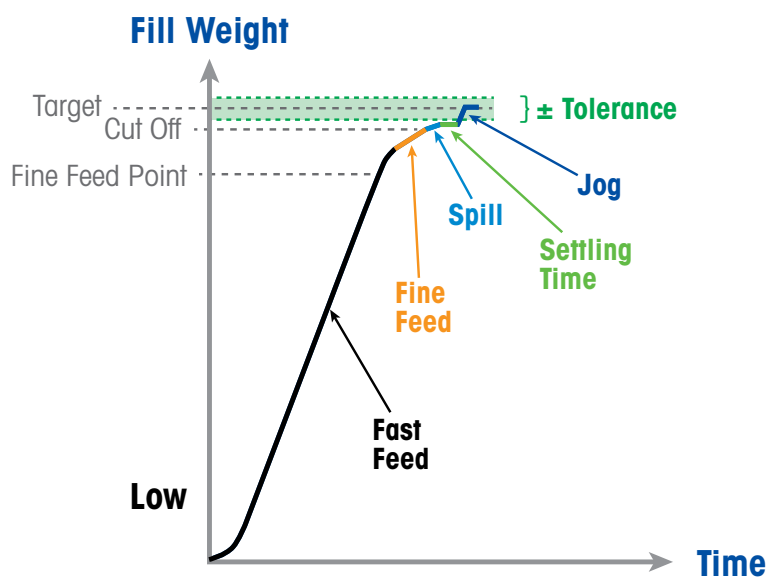

Figure 25: Two-Speed Filling Operation
5. Figure 25 suggests one way to improve the speed/accuracy conundrum. We can fill the majority of the tank at fast speed/low accuracy and then switch to slow speed/high accuracy towards the end. In other words, use two-speed filling, as discussed in more detail below. There is no penalty for having filled the majority of the tank at low accuracy, as long as we apply the brakes in time to finish at high accuracy. This has been the conventional approach to achieving an acceptable balance of speed versus accuracy in filling, and it is widely used today.
Figure 25 is a graph of fill weight versus time for a conventional two-speed filling operation. Some or all of these elements may be incorporated into a typical filling operation, depending on the accuracy required. At the top is shown a target fill weight with a \pm tolerance band. The filling cycle can be broken down into several phases as illustrated. When the feeder device is first activated, the material flow takes some time to ramp-up to a steady flow in the fast-feed phase, which accounts for the majority of the fill time and weight. Beyond that are additional phases which refine the fill weight to ensure it is within tolerance. The various terms are explained in detail below.